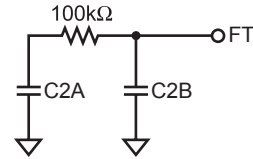

Figure 3—Timeout Adjustment
Secondary Overcurrent Timeout: When the MP1039 is regulating secondary overcurrent (SI feedback), the source current in the Fault Timer (FT) cap is approximately 55μA. This causes the SI timeout to be about 1/55 of the Open Lamp (LV) timeout. To reduce the SI timeout further, modify the network at the FT pin as shown in Figure 3.